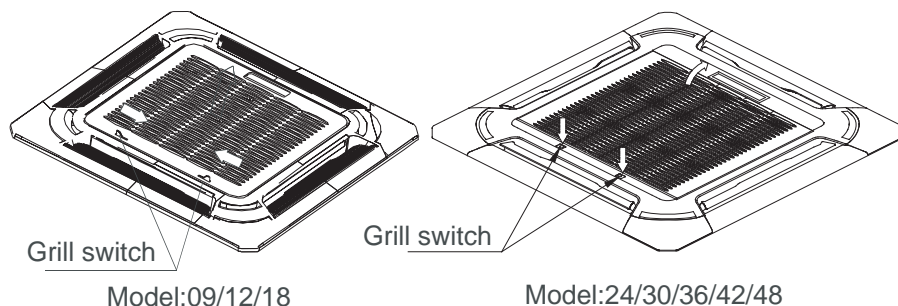

Fig.22
1. Push two grill switches to the direction at the same time, and then pull them up. (Fig.22)